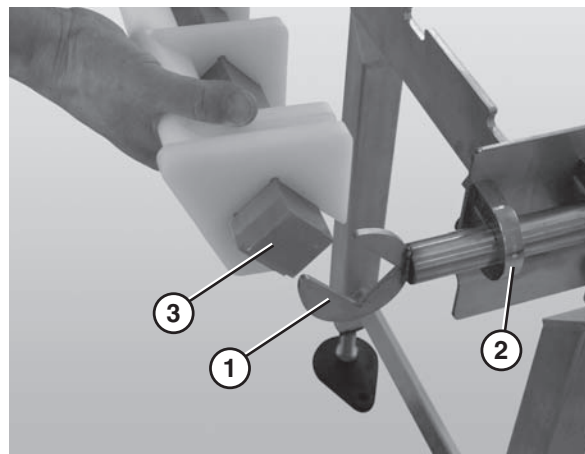

Figure 14
1. Slide the nose bar idler shaft hands (**Figure 14**, item 1) into the take up blocks (**Figure 14**, item 2).
2. Attach the nose bar transfer post (**Figure 14**, item 3) to the nose bar idler shaft hands.